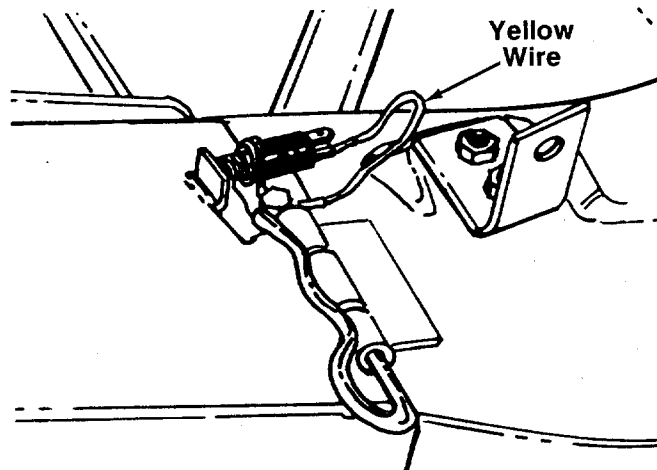

FIGURE 6.
10. Unplug the yellow wire from the chute safety switch. Then lift the deck off the rider. See figure 6.